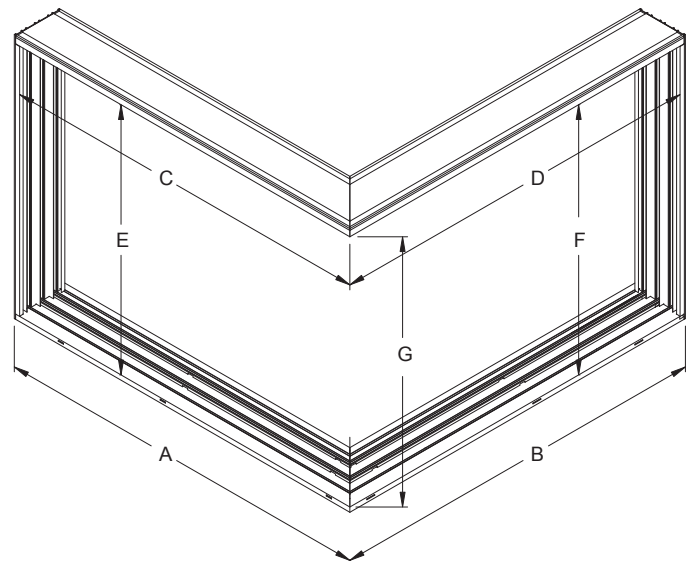

Figure 7
9. Important: Frame head and track must be level and square. Frame jamb must be plumb. Measure at head, sill and mid point horizontally to be certain that frame is not bowed, also measure from top to bottom across the entire frame from left to right to make sure there are no rises in the sill or dips in the header. Rises in the sill or dips in the header could prevent the panels from getting installed. Do not over tighten frame installation screws this could warp the frame. (See Figure 7)